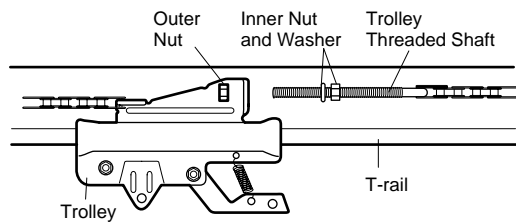

Figure 2
- Remove the trolley threaded shaft from the trolley by loosening the inner nut and lock washer (Figure 2).